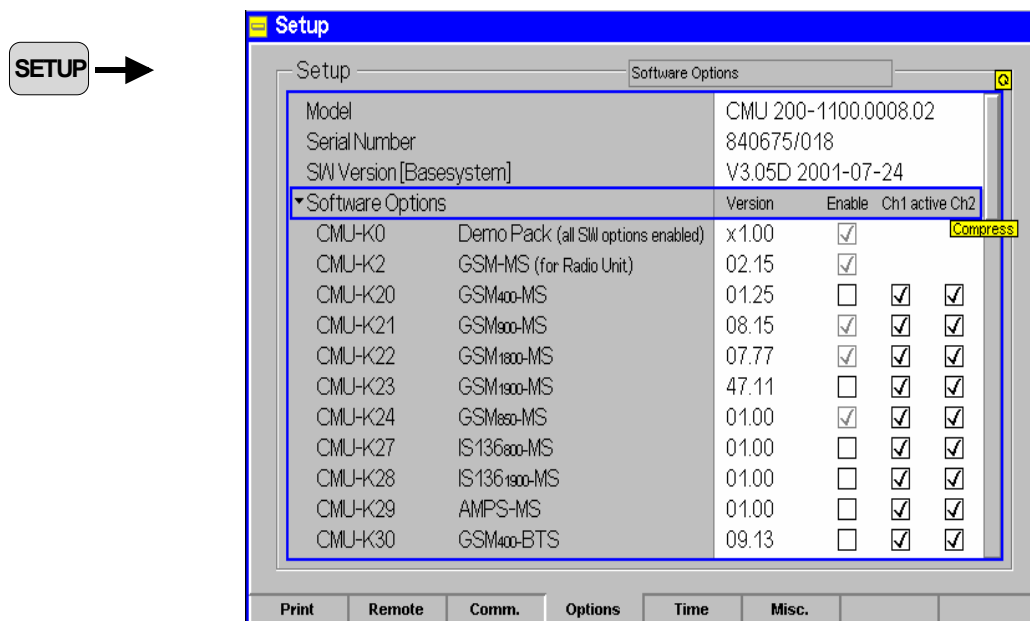

Fig. 4-9 Options menu
- Select the respective line in the list of software options (in the example of Fig. 4-9 the line *CMU-K20 GSM400-MS*),